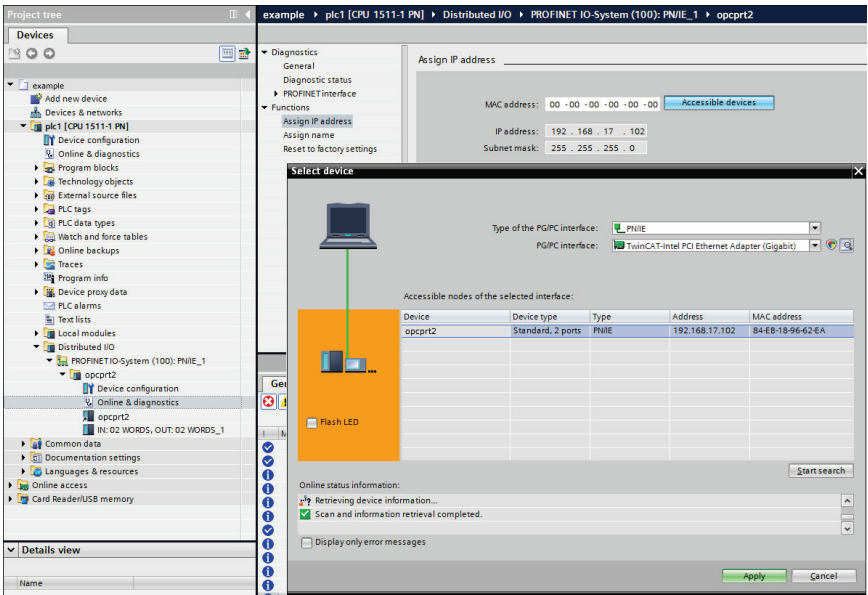

Figure 100: Discover PROFINET Devices on the Network
In the **Project tree**, expand **plc1...Distributed I/O...PROFINET IO-System (100):PN/IE_1**. Expand the device and double-click **Online & diagnostics**. In the next panel, expand **Functions** and select the **Assign IP address** node. Click the **Accessible devices** button. Select the appropriate **PG/PC interface** and click the **Start search** button to discover and display the PROFINET devices on the network as shown in Figure 100. Select the device and click the **Apply** button.